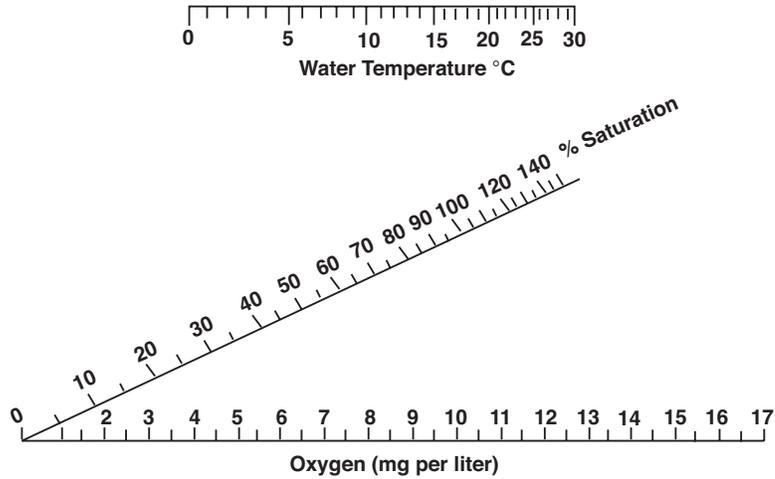
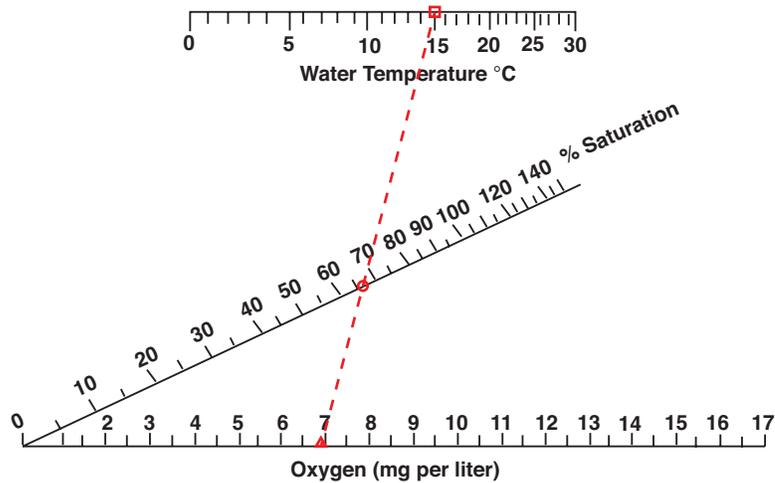

Figure 5: Nomogram of Oxygen Saturation.
Figure 6: Using a Nomogram.
14. **ESTIMATE** the percentage saturation of DO in your sample by using a nomogram (Figure 5). Place a ruler over the nomogram so that the ruler intersects the top line at your measured water temperature. Next, pivot the flat edge so that it simultaneously intersects the bottom line at your measured dissolved oxygen concentration. Finally, observe the point at which your straight edge intersects the % saturation line. Figure 6 shows an example of this using a starting temperature of 15° C (red square) and a dissolved oxygen measurement of 6.9 mg/L (red triangle) which results in a 65% saturation measurement (red circle).